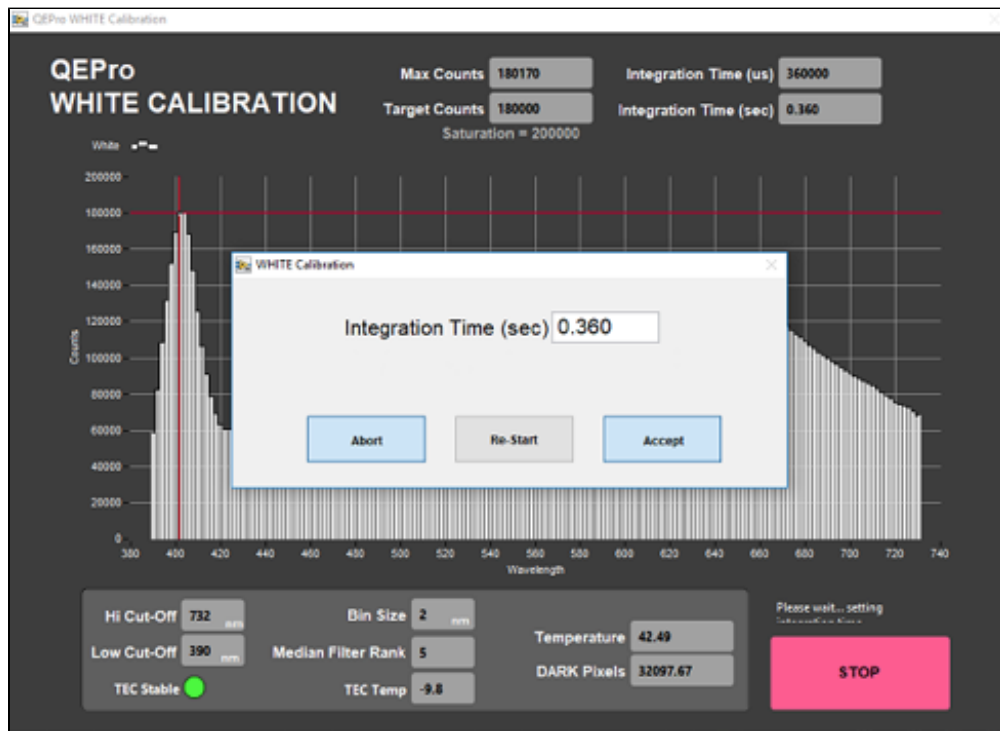

Figure 24. White Calibration Integration Time Display
4. When the white calibration is complete, the integration time will be displayed on the screen and the user will be prompted to **Accept, Re-Start, or Abort** the calibration (**Figure 24**).
5. Click **Accept** to accept the white calibration. (**Figure 24**):